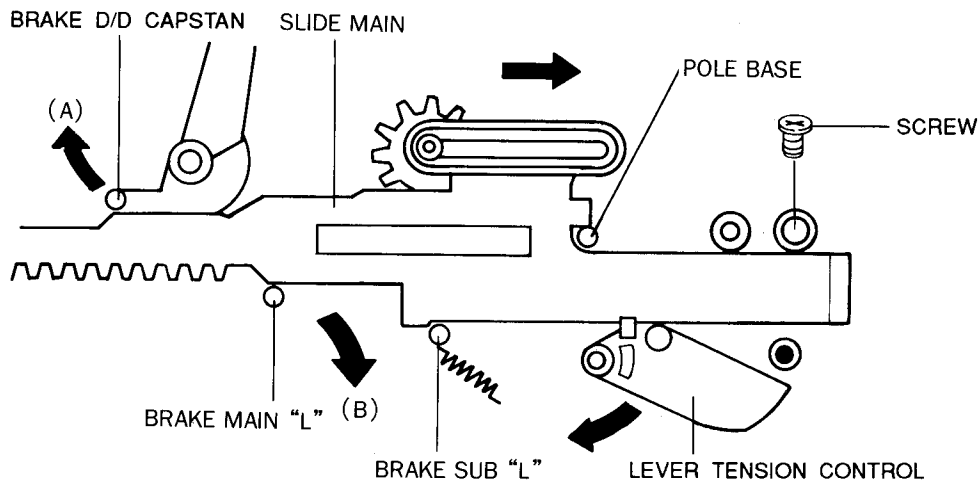

Fig. 45 Timing of Slide Main
2. Install the slide main between brake D/D capstan and brake main "L", while pulling the brake D/D capstan and the brake main "L" toward arrow (A) and (B) respectively.
3. At the same time, make sure the brake sub "L" and the pole base is located as shown in the Fig. 45.